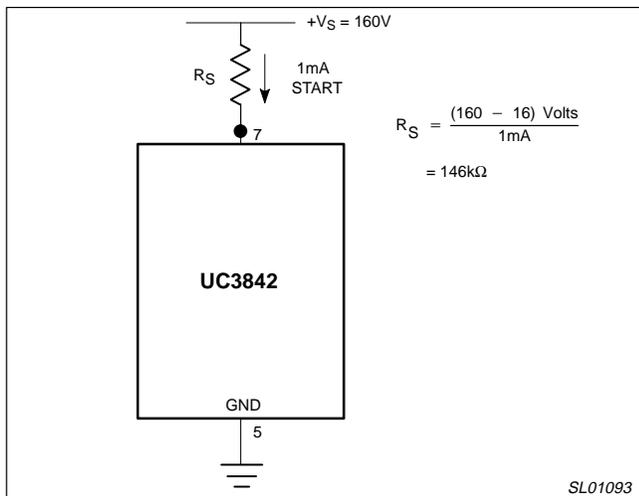
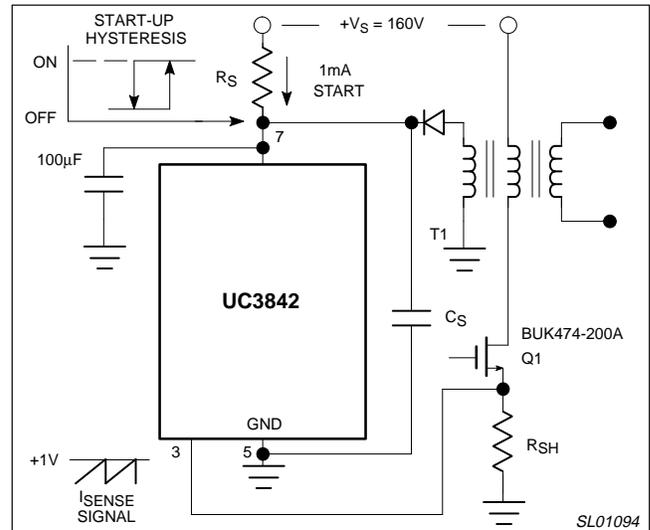

Figure 6. Calculating the Bootstrap Resistor
Figure 7. Typical Output Circuit and Hysteresis
**Pin 7: Device supply voltage input.** A special start-up circuit is recommended (Figure 6) to provide optimum use of the undervoltage lockout capabilities. An initial current of 1mA is necessary to start the device and to activate the internal reference when above 10V, but the output circuit will not become active until V7 reaches the 16V upper threshold. (Voltage feed will operate the device at voltages below 16V after the upper threshold has been exceeded.) This allows a 6V hysteresis range to prevent smaller supply voltage changes from triggering the low voltage lock-out mechanism. Bootstrap operation is dependent upon the dropping resistor,  $R_S$ , from the main supply bus to Pin 7 to provide the necessary 1mA starting current to activate the voltage reference. A storage capacitor is required as shown in Figure 7 to provide enough energy to kick the output circuit into operation without the V7 voltage decaying below 10V. This imposes a minimum value of capacitance to allow the device to start under full load conditions. The typical value required is 100µF. Also critical to successful start-up is a low impedance path from the electrolytic capacitor to Pin 7 and from the bootstrap supply on the transformer. A ceramic